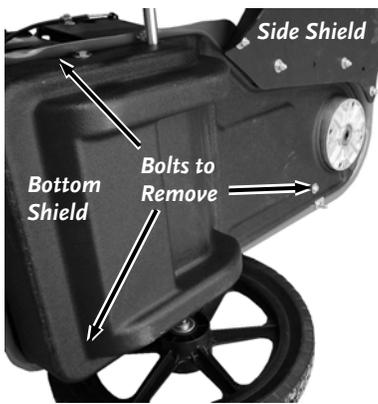

Figure 31
2. Remove the two mounting Bolts and Washers on the sides of the shield, behind the Axle and the single mounting Bolt and Washer near the Mow-Ball® mount using a 7/16" Wrench or Socket (**Figure 31**).
3. Remove the Bottom Shield by sliding it out from under the Side Shield and lifting it up and over the Bearing Housing (**Figure 31**).